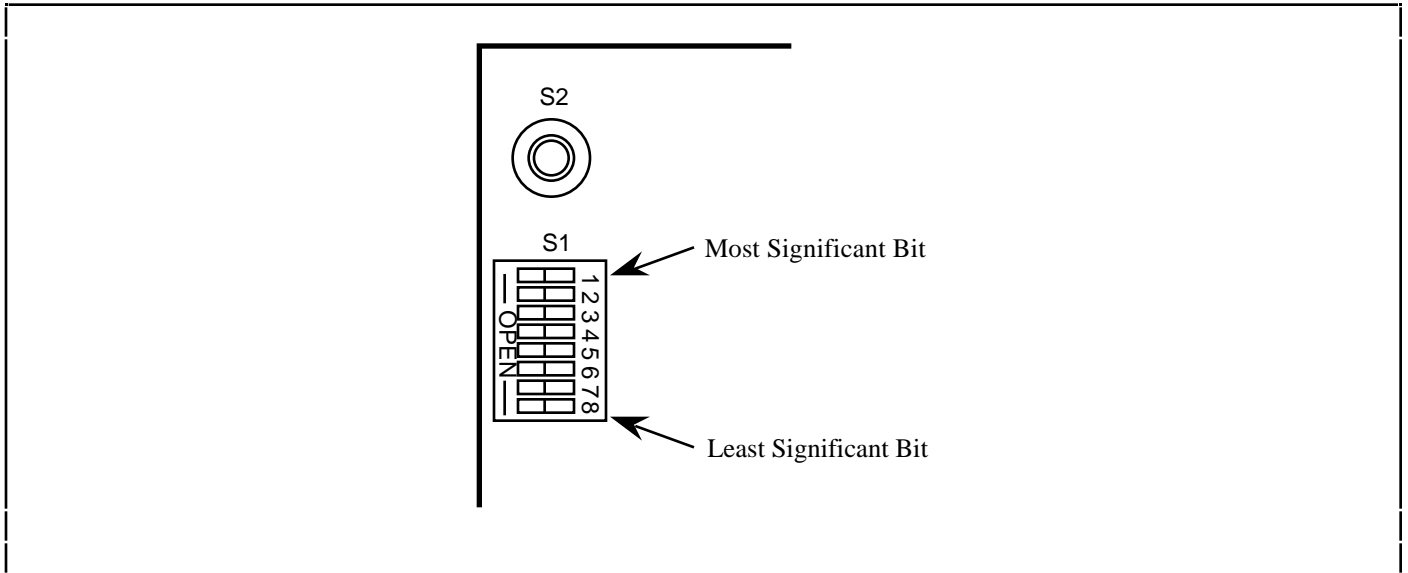

Figure 6. CC Server Address Switch
An 8-position, switch pack on the left side of the CC Server is used to set the address of the CC Server. The address switches form a binary address, with the most significant bit set at top switch position and the least-significant bit set at the bottom switch position (note that the open position on the switch pack is the set (1) position). The switch layout is shown in Figure 6.